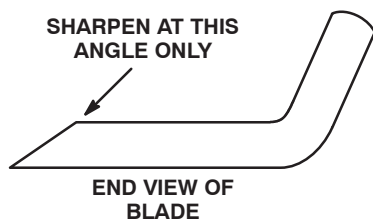

Figure 86
3. Examine the cutting edges of all of the blades. Sharpen the cutting edges if they are dull or nicked. Sharpen only the top of the cutting edge and maintain the original cutting angle to make sure of sharpness (Fig. 86). The blade will remain balanced if the same amount of metal is removed from both cutting edges.